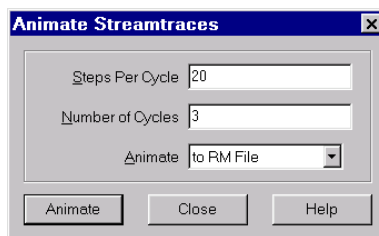

Figure 29-7. The Animate Streamtraces dialog.
3. From the Tool menu, choose Animate, then choose Streamtraces. The Animate Streamtraces dialog appears, as shown in Figure 29-7.